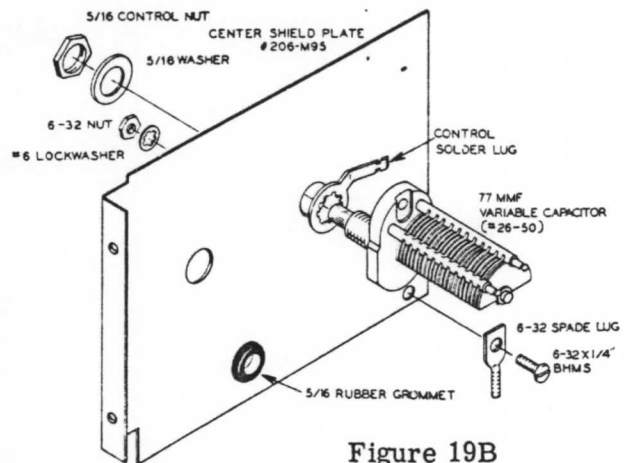

Figure 19B
- (✓) Locate the center shield plate (#206-M95) and, referring to Figure 19B, mount the 5/16" grommet in the smallest hole.